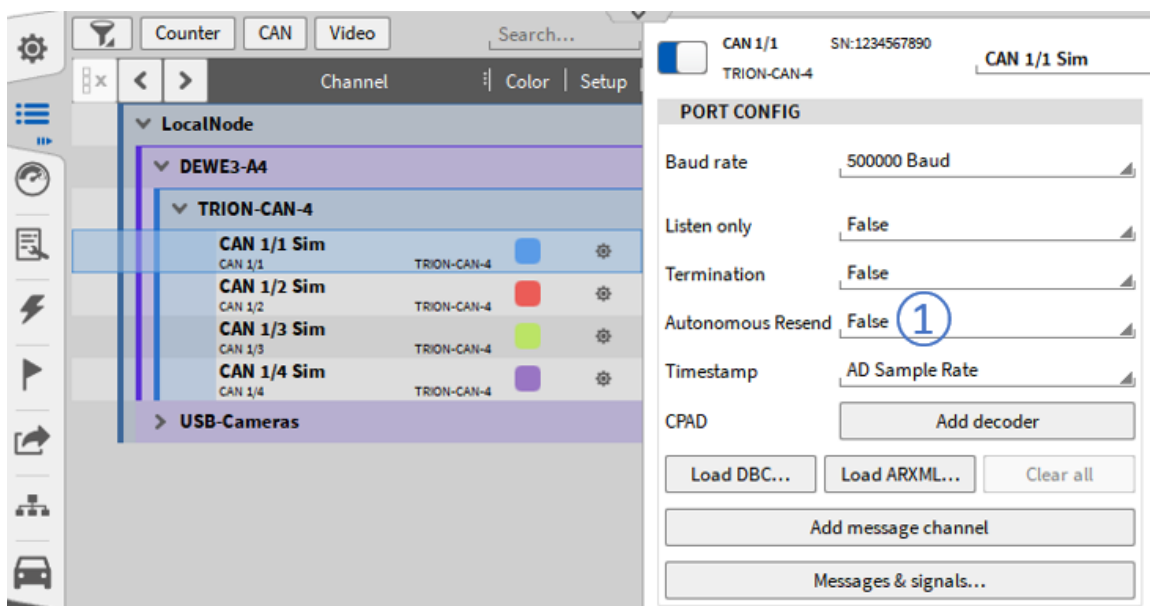

Fig. 7.211: Autonomous resend option
The Autonomous Resend option (see ① in Fig. 7.211) provides the following functionality for CAN buses which transmit data: